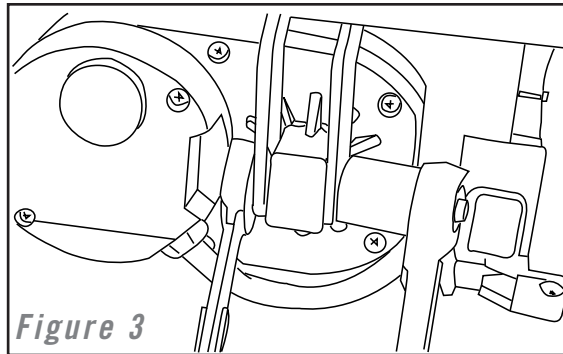

Figure 3
- 6) Fold treadmill down into the running position and remove the top bolt that attaches elevation motor to bracket; then remove the elevation motor from the machine (Figure 3).